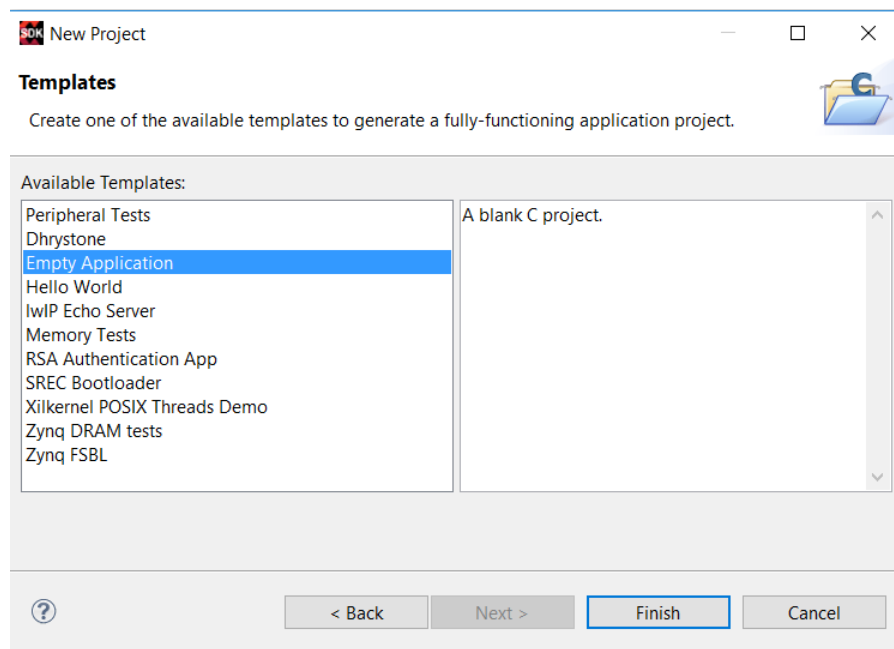

Figure 2.21: New Project Template dialogue
- (c) At the *New Project Templates* screen, select **Empty Application**, as in Figure 2.21, and click **Finish** to create the project.